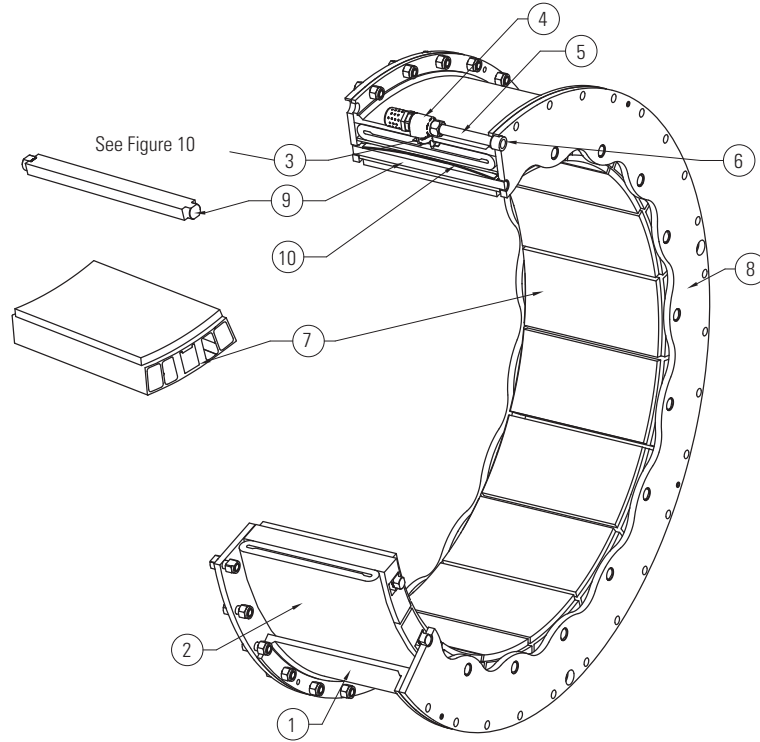

Figure 1
| 7.1 | Parts breakdown of TLC element assemblies figures 1 and 10 | 16 |
- 1.2.1 Referring to Figures 1, 2, 3 and 4, the neoprene and cord actuating tube is contained within a steel rim which is drilled for mounting to the driving component. As air pressure is applied to the air actuating tube, the tube inflates, forcing the friction shoe assemblies uniformly against the drum, which is attached to the driven component. The friction shoe assemblies, which consist of the special high coefficient friction pads bonded to aluminum backing plates, are guided by torque bars which are inserted into the element side plates. The torque path is from the driving shaft, through the element mounting component (typically an iron spider), through the element rim and side plates and the torque bars, backing plates and friction material. The torque is then transmitted through the friction couple to the driven shaft. When the specified applied air pressure is exhausted, release springs and centrifugal force assure immediate and positive disengagement.